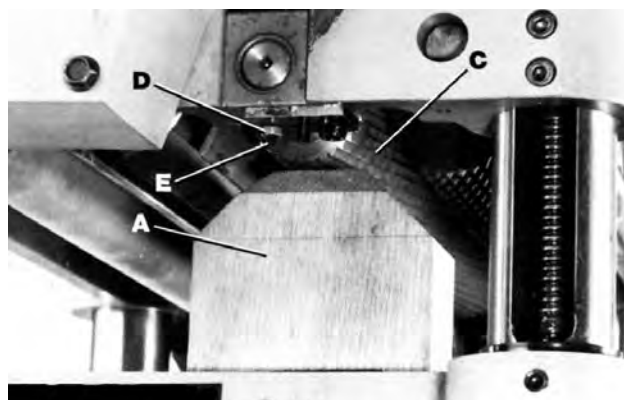

FIGURE 25
4. Move the gauge block (A) Fig.25 minus the feeler gauge, under one end of the infeed roller (C). The bottom of the infeed roller should just touch the top of the gauge block (A), as shown.
5. If the height of the infeed roller must be adjusted, loosen hex. nut (D) Fig.25 and turn adjusting screw (E) until that end of the infeed roller just touches the top of the gauge block. Then tighten hex. nut (D).